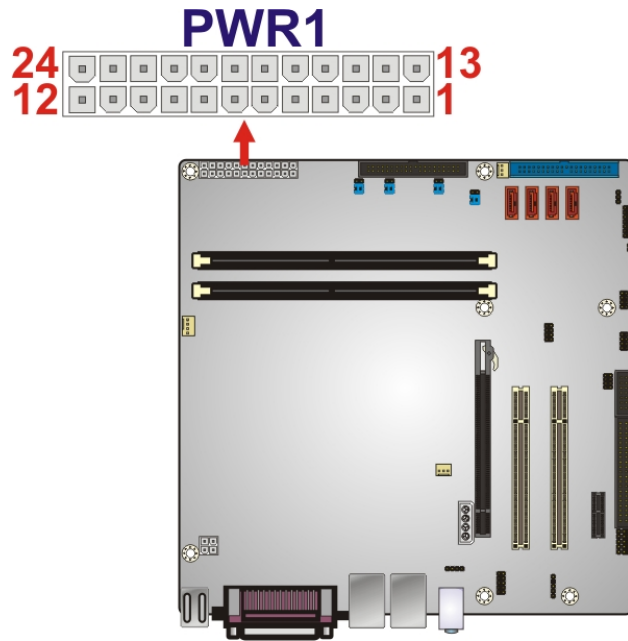

Figure 3-2: ATX Power Connector Pinout Locations
- CN Location:** See **Figure 3-2**